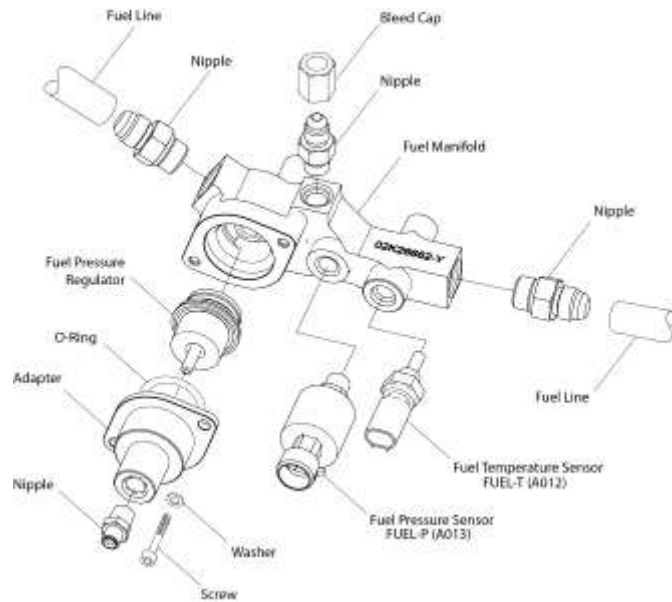

Figure 11
- (1) Put a fuel collection container under the engine where the fuel hose connects to the fuel manifold return.
- (2) Loosen the bleed cap on the fuel pressure regulator to release pressure from the fuel hoses.
- (3) Remove the pressure source line connected to the inlet nipple on the adapter for the fuel pressure regulator (Figure 11).
- (4) Remove the two screws and washers (that attach the fuel pressure regulator adapter to the fuel manifold).
- (5) Remove the fuel pressure regulator adapter and O-ring. Discard the O-ring.
- (6) Remove the fuel pressure regulator from the fuel manifold.
- (7) Remove the fuel collection container and dispose of the fuel in accordance with environmental regulations.
- (1) Install a new O-ring on the adapter (Figure 11).
- (2) Install the adapter on the fuel pressure regulator.
- (3) Install the fuel pressure regulator/adapter on the fuel manifold until the adapter is seated against the mating face of the fuel manifold.
- (4) Install the two screws each with a washer to attach the adapter and fuel pressure regulator to the fuel manifold.
- (5) Torque the screws to the specified limits as per the Standard Torque Tables in the latest revision of the *Service Table of Limits - SSP-1776*.
- (6) Connect the pressure source line to the inlet nipple on the adapter for the fuel pressure regulator.
(7) Install and tighten the bleed cap on the fuel pressure regulator.